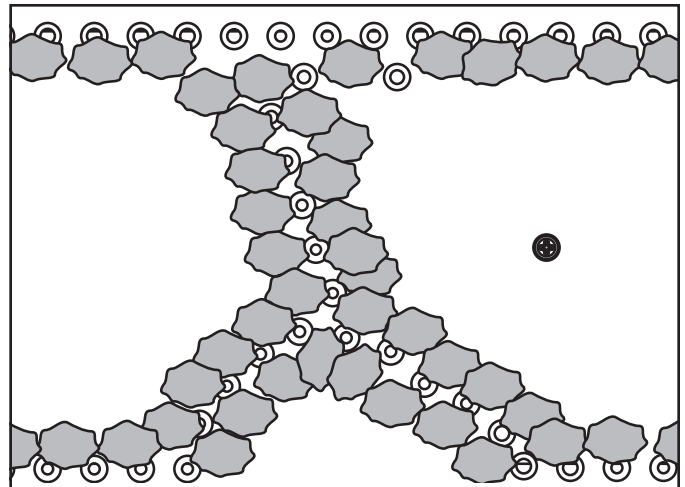

Figure 16.10 Embers Overlapping Burner Port Holes (LP only).
- **LP Only:** Using dime-size pieces of Glowing Embers®, overlap the burner ports. See Figure 16.10. The impingement created by the embers will help blend the fire.